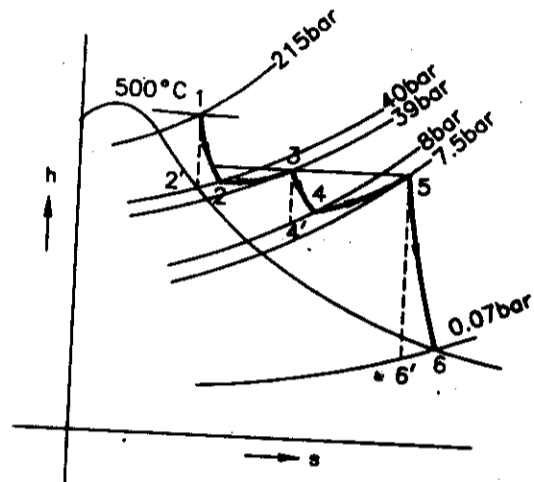

Fig. Prob. 22.6.
**Solution.** The expansion and reheating processes of steam are represented on  $h-s$  diagram as shown in Fig. Prob. 22.6.